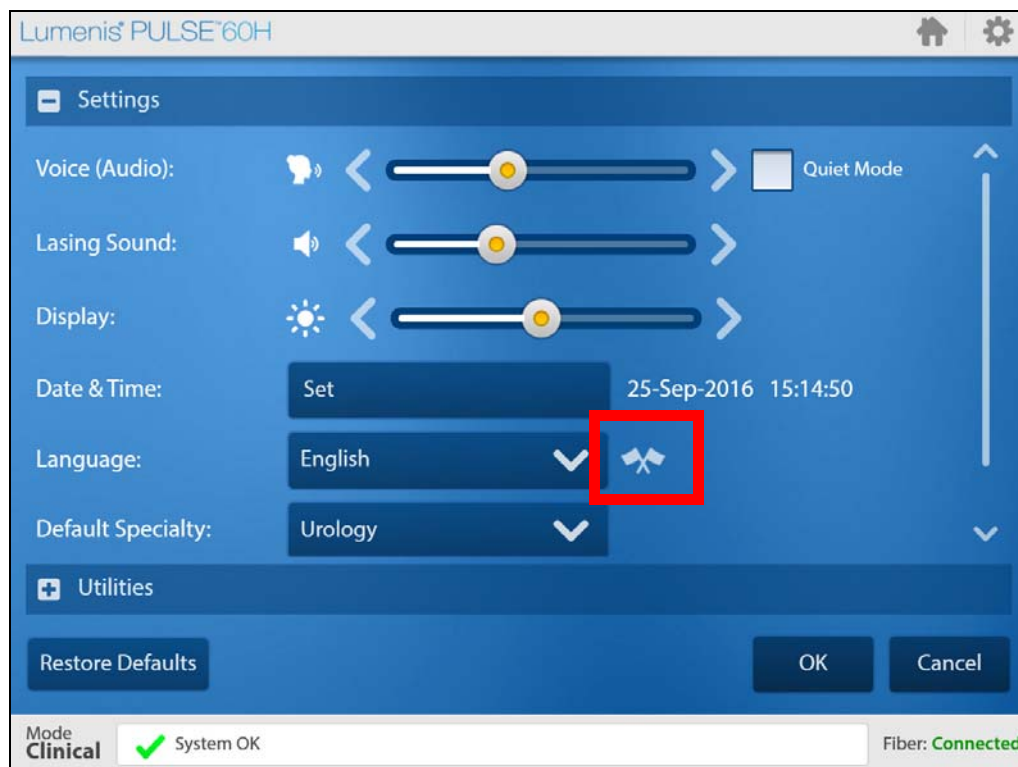

Figure 73: Settings & Utilities > Language Reset Flag
6. On the **Settings** screen press the **OK** button (see Figure 73).